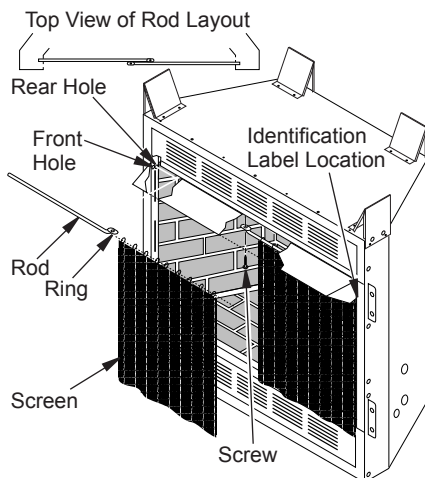

Figure 20 - Installing Fireplace Screen
3. Insert first rod into rear hole in left side of firebox. Fasten rod to rear hole near center of firebox using #10 x 3/8" Phillips screw provided (see Figure 20).